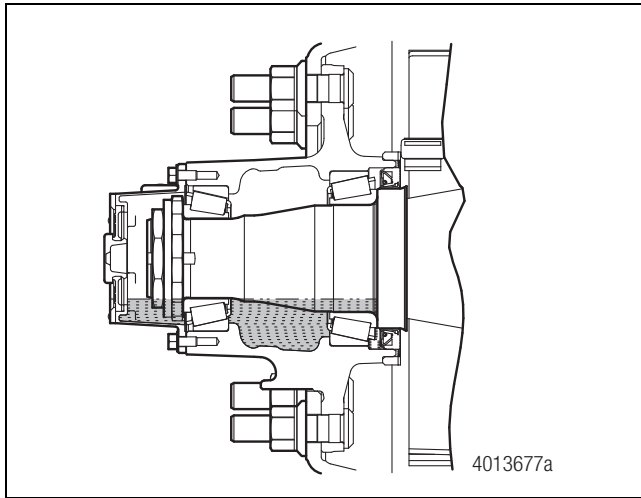

Figure 13.4
- Fill the wheel end with an approved gear oil to the hubcap fill line. The oil must be given sufficient time to settle prior to a final check of the oil level. This is especially important in cold conditions. Figure 13.4.